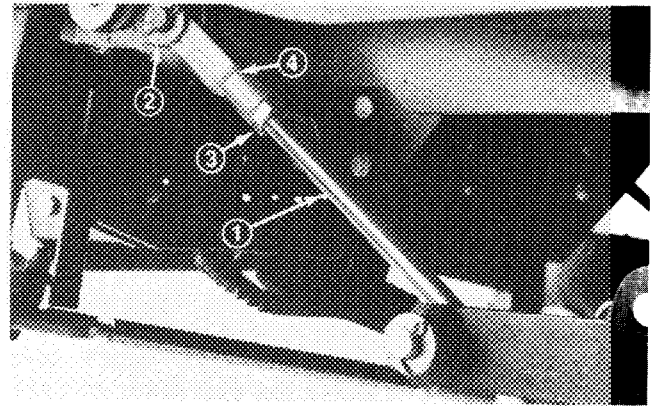

Figure 17
- D. Block up deck, remove cotter pin and washer from one of the front link yokes (Fig. 17).